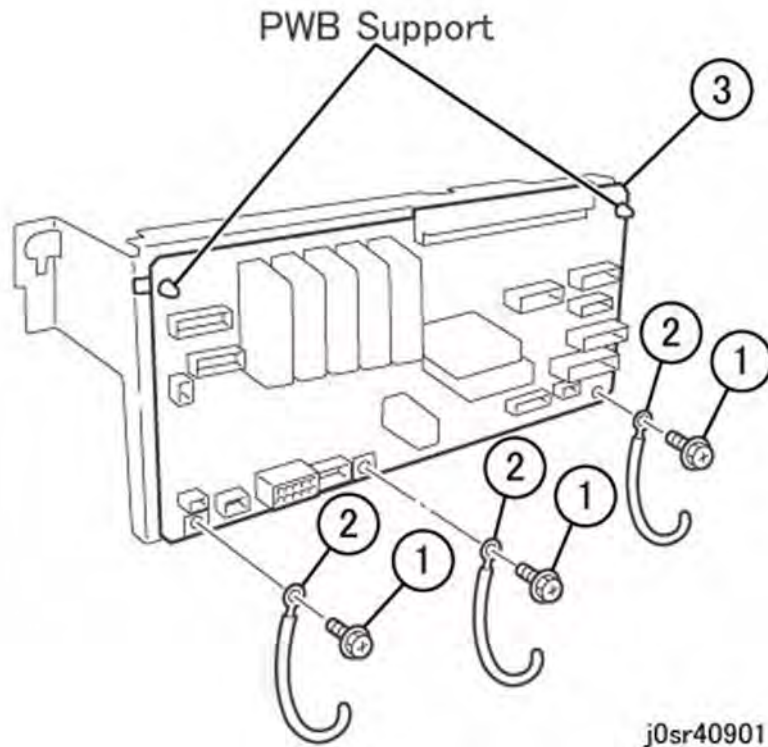

Figure 4 Removing the I/F (MDD) PWB from the Bracket Assembly
7. Remove the I/F (MDD) PWB from the Bracket Assembly (Figure 4).